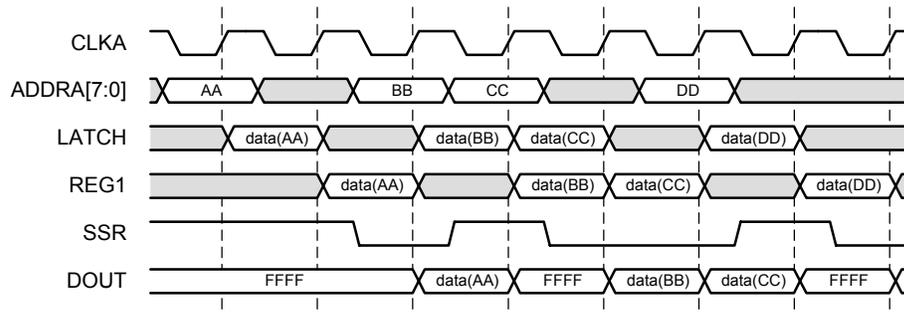
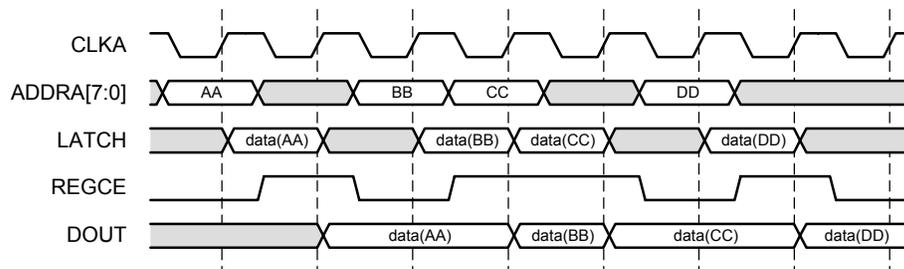

Figure 20: Flow Control Using SSR
Figure 21: Flow Control Using REGCE
The combination of the enable (EN), reset (SSR), and register enable (REGCE) pins allow a wide range of data flows in the output stage. Figure 20 and Figure 21 are examples on how this can be accomplished. Keep in mind that the SSR and REGCE pins apply only to the last register stage.
Figure 20 depicts how SSR can be used to control the data output to allow only intended data through. Assume that both output registers are used, the port A reset value is 0xFFFF, and that EN and REGCE are always asserted. The data on the block RAM memory latch is labeled LATCH, while the output of the block RAM embedded register is labeled REG1. The output of the last register is the output of the core, DOUT.
Figure 21 depicts how REGCE can be used to latch the data output to allow only intended data through. Assume that only the memory primitive registers are used, and that EN is always asserted and SSR is